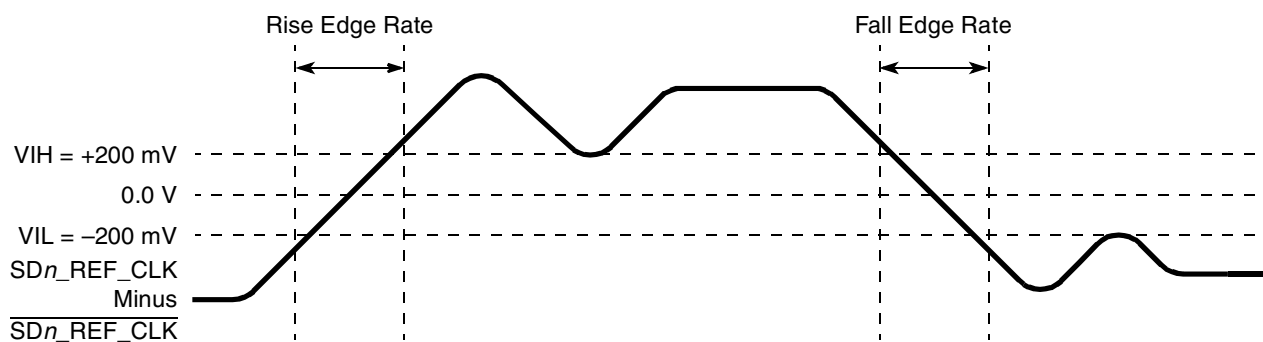

Figure 57. Differential Measurement Points for Rise and Fall Time
3. Measured from –200 mV to +200 mV on the differential waveform (derived from $\overline{SDn_REF_CLK}$ minus $\overline{SDn_REF_CLK}$). The signal must be monotonic through the measurement region for rise and fall time. The 400 mV measurement window is centered on the differential zero crossing. See Figure 57.